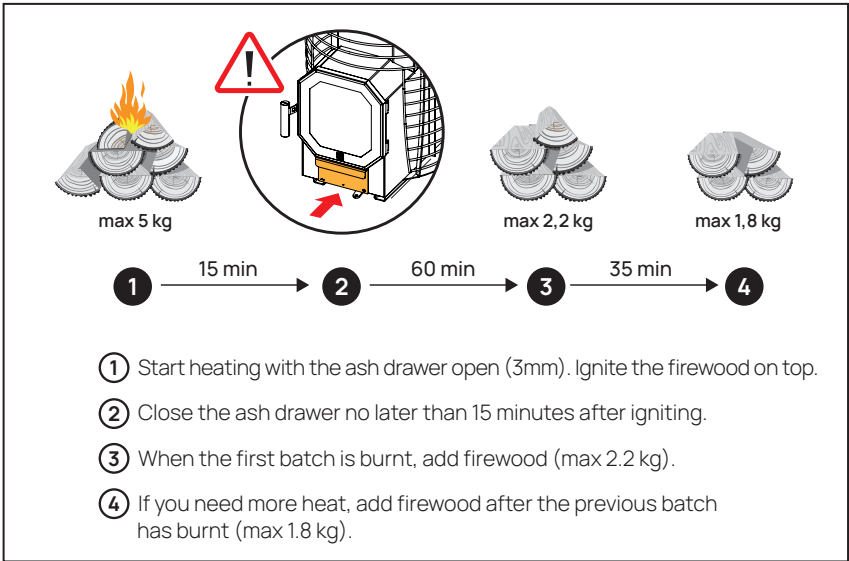
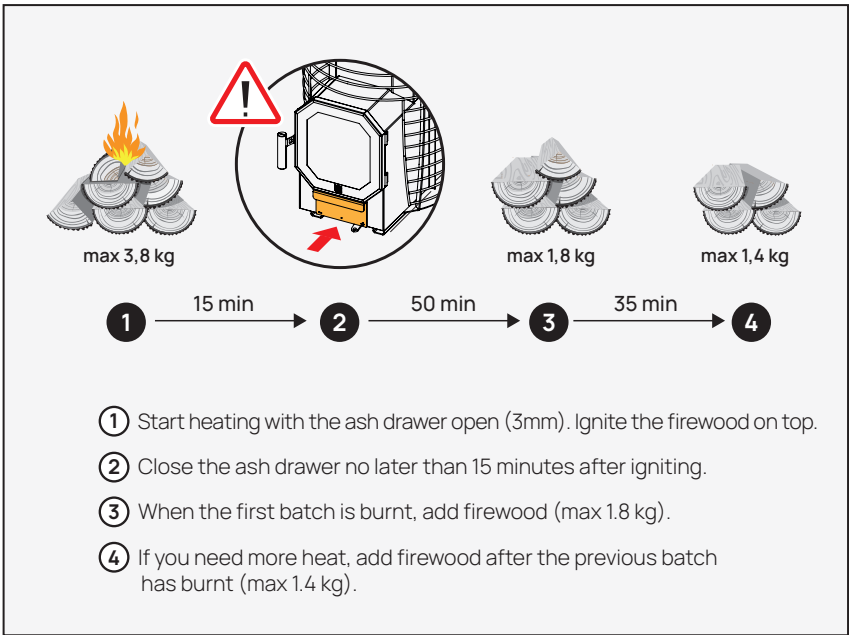

Figure 16. Starting HIVE Flow heating and adding the batch of firewood.
Figure 17. Starting HIVE Flow Mini heating and adding the batch of firewood.
- Do not exceed the maximum amount of firewood, in kilograms, as specified in **Figures 16** and **Figure 17**.
- **Figure 16** and **Figure 17** indicates the maximum number of firewood in kilograms for each filling procedure.